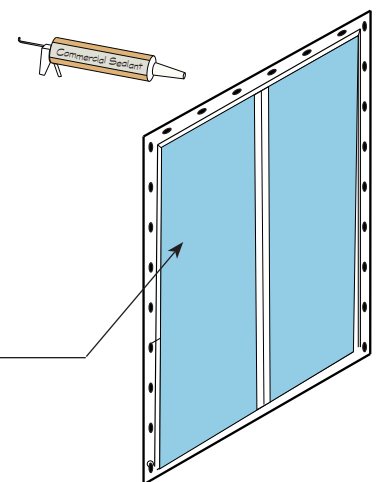

FIGURE 11
11. Apply a second 3/8" continuous bead of silicone caulking to the interior surface of the nailing fin, covering the holes in the fin, to seal the door's fin to the house wrap. If the door has factory applied casing, the silicone bead should still be applied so that it covers the installation holes (Figure 11).